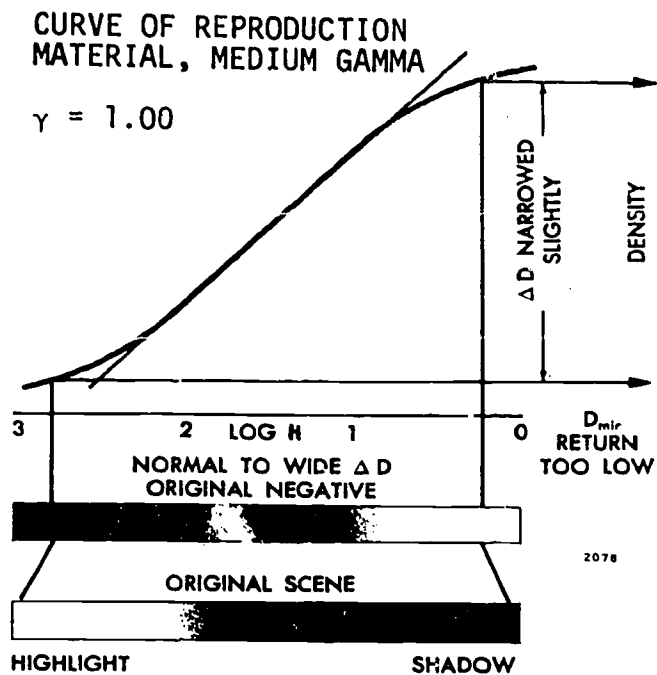

Figure 2-20. Normal to wide density difference (ΔD).
Figure 2-20 illustrates an original scene compressed somewhat when recorded on a negative. Printing this negative on a film to retain normal to wide density difference (ΔD) as the next step in duplicating it will fulfill the first criterion if the range of tones in the negative is not too great. It will not entirely fulfill the second criterion and will not satisfy the third criterion at all. The conditions shown here are satisfactory where the original scene consists of a normal range of tones with adequate discrimination between them, but cannot correct for tonal compression or expansion.
5. Referring to exercise 4 and figure 2-20, printing this negative on a film to retain normal-to-wide density differences (ΔD) will fulfill what criterion?